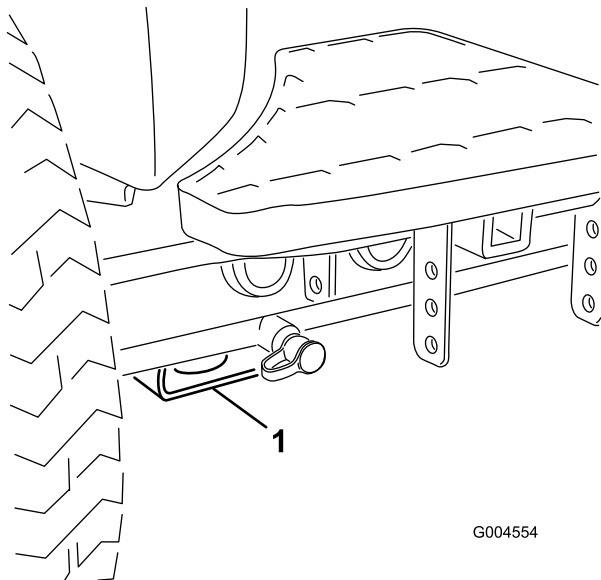

Figure 44
- Front—rectangular pad, under the axle tube, inside each front tire (Figure 44).